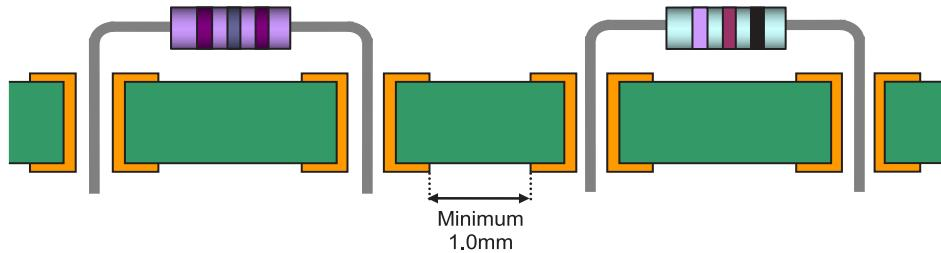

Figure 60: Through-hole component layout for wave soldering.
- [108] The optimum component pitch is $\geq 2.0\text{mm}$, the distance between the solder pad edges must be at least 1.00mm as shown in Figure 60. In addition, the component bodies must not interfere with each other.